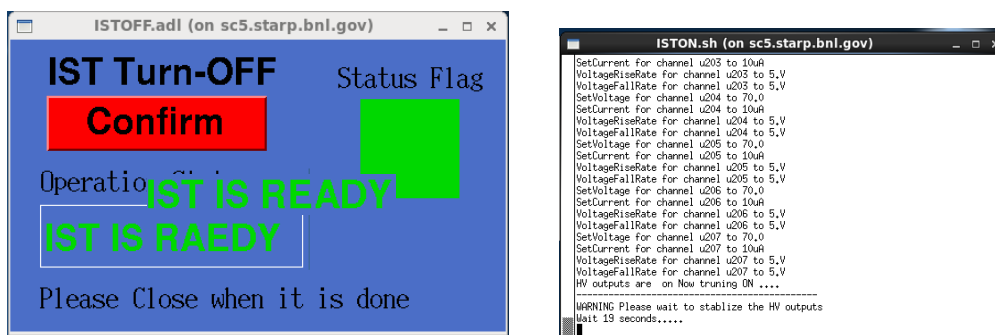
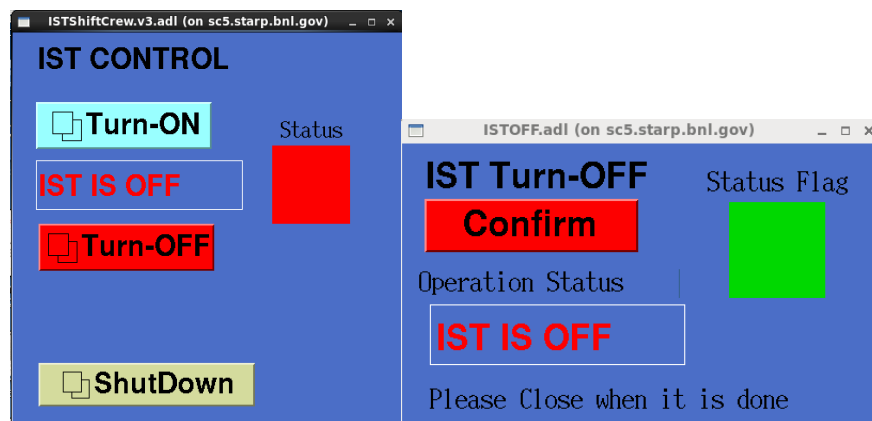

Figure 4 Left: IST Turn-Off Confirmation Window. Right: Pop-up terminal during turn-on.
Figure 5 IST Main GUI (Left) and Turn-off Confirmation Window (Right) after IST is successfully turned off
- 1- Click on **“Turn OFF”** button in the IST main GUI (Figure 1). A window (Figure 4 left) will show up to ask you for confirmation to turn off the IST.
- 2- Click on the **“Confirm”** button. A terminal (Figure 4 right) will show up, automatically executing the commands to turn off the IST. After about 60 seconds, the terminal (Figure 4 right) will disappear after the last command being executed. The IST status bar will become green indicating that turning off is successful and **“IST IS OFF”** (Figure 5).
- 3- Close the Turn-Off confirmation window (Figure 4 right) and inform the shifter leader that the IST is off.
- I. Close the Turn-Off confirmation window (Figure 4 right), then click on **“Turn OFF”** button again and repeat the above procedure.